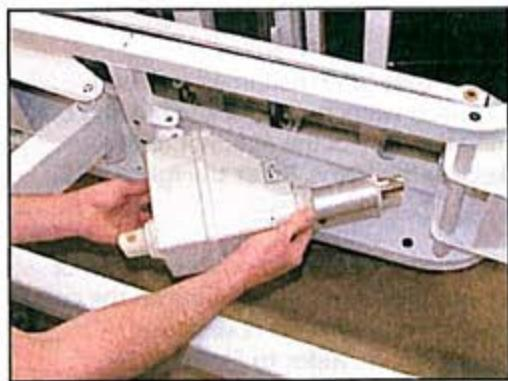

FIGURE 5.28
10. Remove the Actuator. Refer to Figure 5.28.